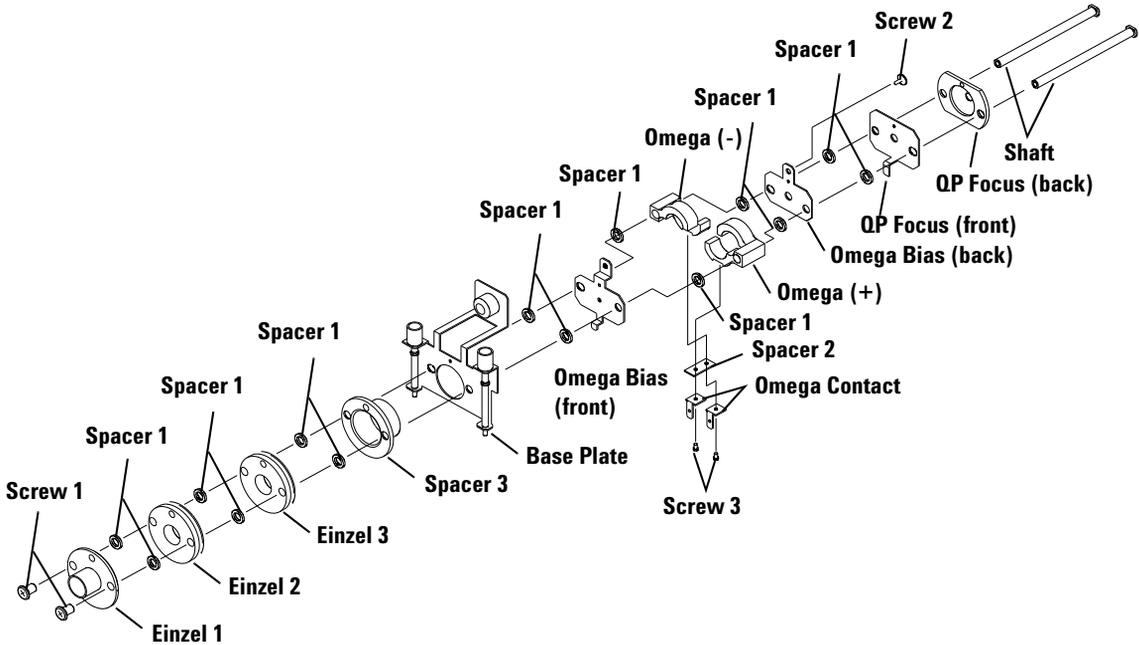

Figure 74 Expanded View of Einzel Lens - Omega lens assembly
Disassemble the lens assembly so the orientation matches the following diagram. (Figure 74)
- 1 Insert two shafts into the QP focus (back) in the position shown in Figure 74. Perfectly insert them so the shaft brim fits into the groove of the QP focus (back). Put this on the skimmer wrench so the shaft is vertical to the tools. Continue assembly using this as a stand.
Refer to Figure 74. The concave surface of the lenses should be up for assembly. Do not insert spacer 1 between the QP focus (back) and the QP focus (front) or between the base plate and spacer 3.